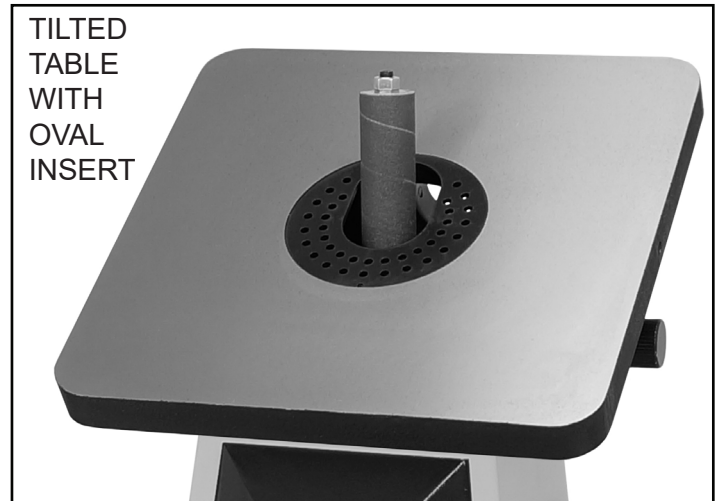

FIG. 8
3. Locate the table insert with the oval cutout and place it into the table top. Figure 8.